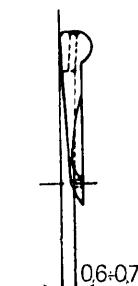

Fig. 22
- allineare i crochet come in fig. 22
- Align loopers as in fig.22